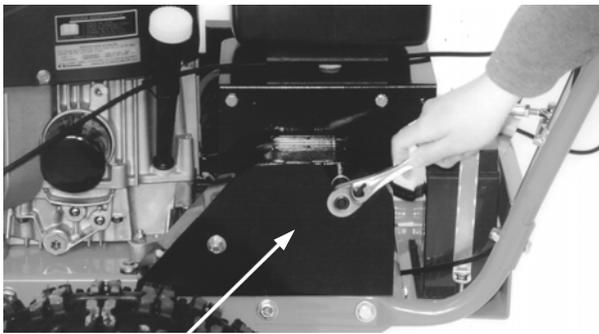

Figure 28
1. Remove the Chain Cover (**Figure 28**).